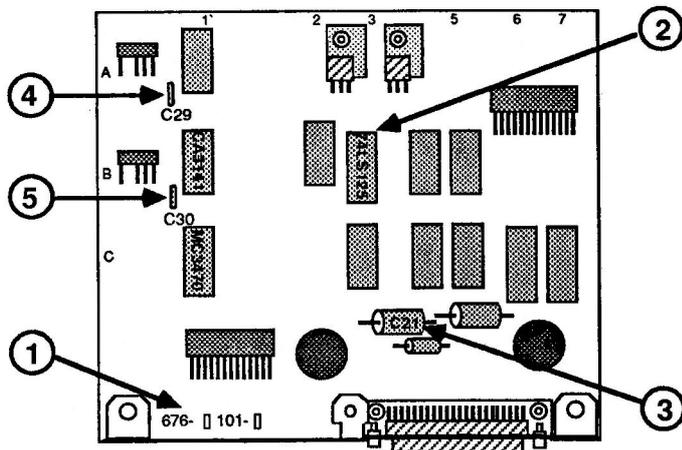
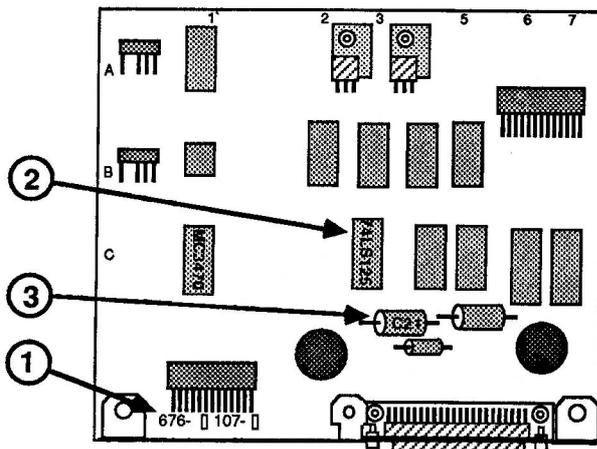

FIGURE 1
FIGURE 2
There are three different versions of the analog card. Identify which card you have by the engineering number on the card (see Figure 1, #1 and Figure 2, #1). Figure 1 shows the layout of cards with engineering numbers 676-[ ]101 and 676-[ ]102. Figure 2 shows the layout of cards with engineering number 676-[ ]107.
It is possible for the DuoDisk to destroy data on the diskette. This destruction can occur when attempting the <Open-Apple><Control><Reset> technique for rebooting, or when using software with certain copy-protection schemes. If a unit exhibits this problem but passes the *Apple 5.25-Inch Disk Drive Diagnostic*, check the analog board. Analog boards with part numbers 676-[ ]101 and 676-[ ]102 may have this problem. The fix is to carefully identify and cut the two capacitors off the board. The capacitors, labeled C29 and C30, are in zones B1 and A1 (see Figure 1, #4 and #5 and the chip-swapping chart on the next page). Use small wire clippers or simply jiggle the capacitors to snap the connections.
**Note:** Before replacing any chips, carefully inspect the card for melted or broken components, particularly the 74LS125 (see Figure 1, #2, or Figure 2, #2) and C21 (see Figure 1, #3, or Figure 2, #3). If you notice fuzz on the card, return the card to Apple. The presence of fuzz usually means that the computer was on while the card was being installed and that capacitor C21 has exploded.